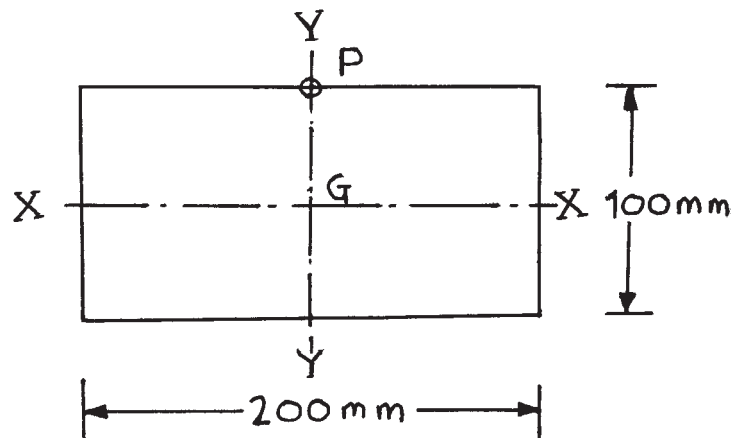

Fig. No. 2
- Calculate maximum and minimum stresses at base of a rectangular column as shown in Fig. No. 2. It carries a load 200 kN at 'P' on the outer edge of a column. Draw stress distribution diagram.